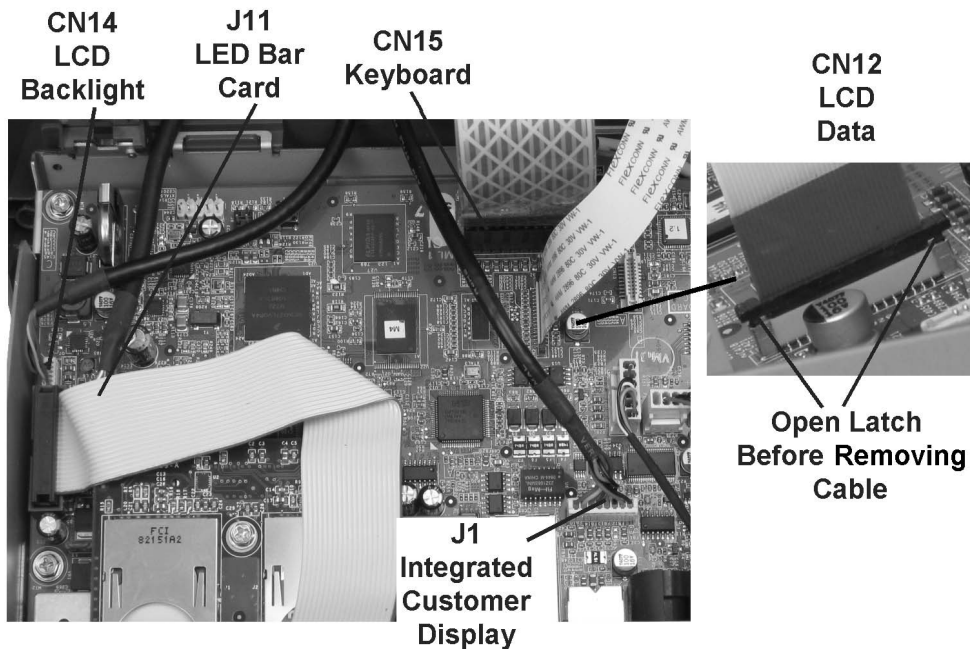

Figure 2-3: Removing the Top Cover Cables
Figure 2-3 below, shows the cables that must be removed from the system board to remove the top cover. The inset at right displays how to open the latch in order to remove the LCD Data Cable. The latch must be open to reinstall the cable.
6. Remove the following cables from the system board as shown in Figure 2-3.